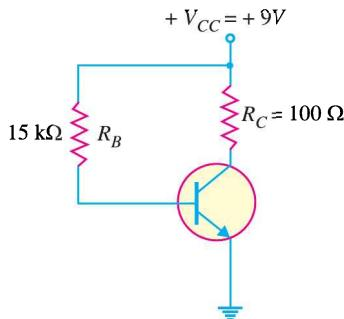

Fig. 9.54
12. The base bias circuit in Fig. 9.54 is subjected to a temperature variation from  $0^\circ C$  to  $70^\circ C$ . The  $\beta$  decreases by 50% at  $0^\circ C$  and increases by 75% at  $70^\circ C$  from its normal value of 110 at  $25^\circ C$ . What are the changes in  $I_C$  and  $V_{CE}$  over the temperature range of  $0^\circ C$  to  $70^\circ C$  ?